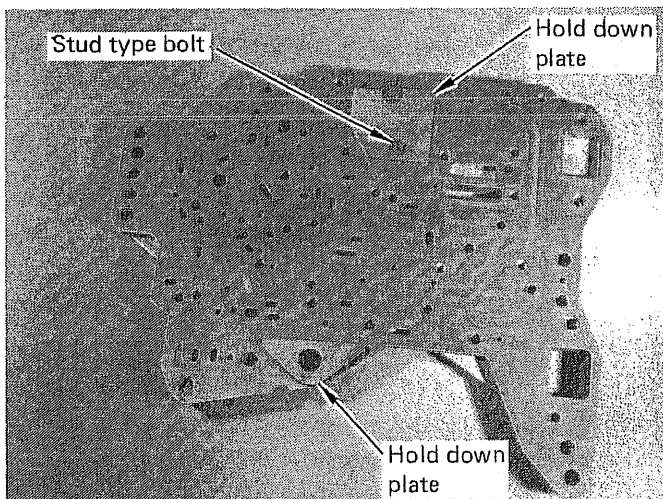

FIGURE 8
STEP 12. Set transfer plate in front of you with the separator plate facing up. Note position of the hold down plates. (See Fig. 8) Note the stud-type bolt on the large plate. Remove hold down plates and bolts. Remove separator plate from transfer plate. If there is a filter screen in the separator plate, discard it.
STEP 15. Install the B&M separator plate into position on the transfer plate. Do not reinstall the stock separator plate. Do not use a gasket between the two. Install the hold down plates into position and install three bolts finger tight. (See Fig. 8) Make sure stud bolt is in the correct location.